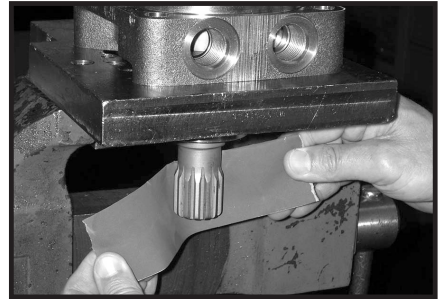

Figure 18
14. Check exposed portion of coupling shaft (12) to be sure you have removed all signs of rust and corrosion which might prevent its withdrawal through the seal and bearing. Crocus cloth or fine emery paper may be used. SEE FIGURE 18. Remove any key (12A), nut (12B), washer (12C), bolt (12D), lock washer (12E), or retaining ring (12F).